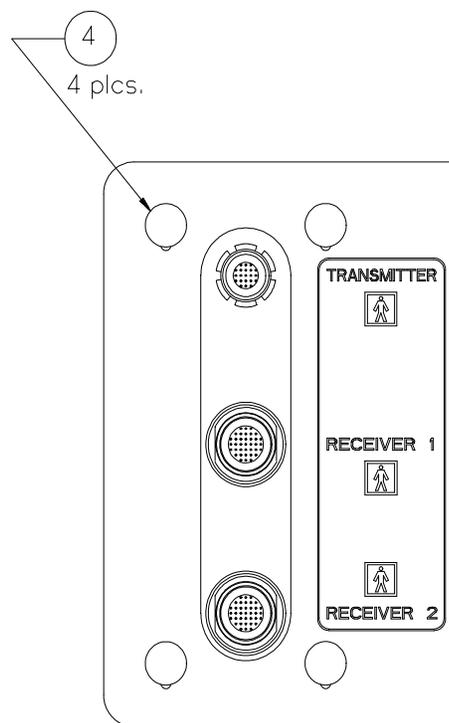

Figure 23
4. Using a small flat-blade screw driver or similar tool, remove the 4 screw hole plugs from the Tracker Bezel. See Figure 23.